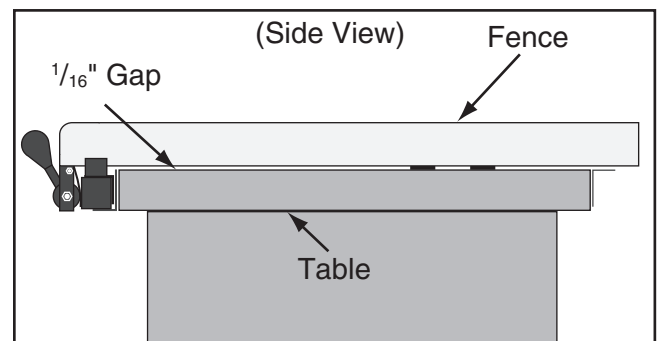

Figure 115. Gap between fence and table approximately $\frac{1}{16}$ " from to back.
—If the gap is approximately $\frac{1}{16}$ " and even from the front of the table to the back (see **Figure 115**), then no additional adjustments are necessary. Proceed to **Clamping Pressure and Parallelism**.
4. Loosen the rail mounting bolts and adjust the rails as needed until the fence rides smoothly, the gap is approximately $\frac{1}{16}$ " , and is even from front to back (see **Figure 115**).
- If the fence drags across the table, then loosen the rail mounting bolts and adjust the rails just enough so the gap between the fence and the table is even from front to back (see **Figure 115** on **Page 66**). Tighten the rail mounting bolts.